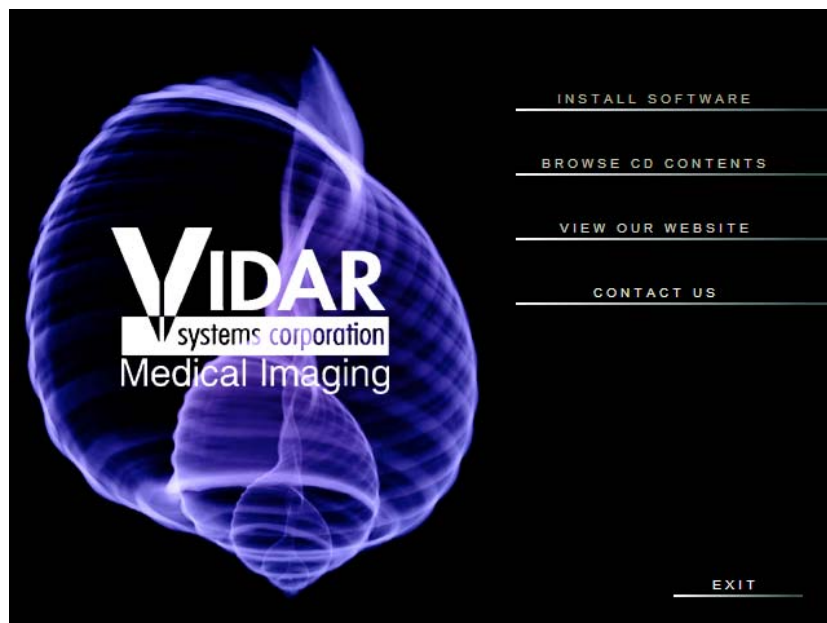

Figure 1
7. The window shown in Figure 1 will appear. Select the “INSTALL SOFTWARE” option.